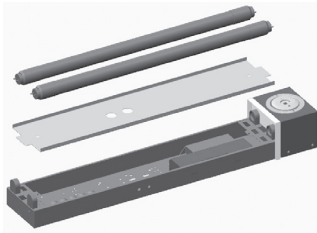
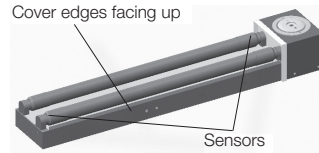

Figure 2
Figure 3
4. Remove the LED tubes and cover as shown in figure 2.
10. Refit the cover to the base with the edges facing up as shown in figure 2, fit the LED tubes with the sensor on the opposite ends to achieve uniform motion sensing range, see figure 3.
3. Remove the LED tubes and cover as shown in figure 2.